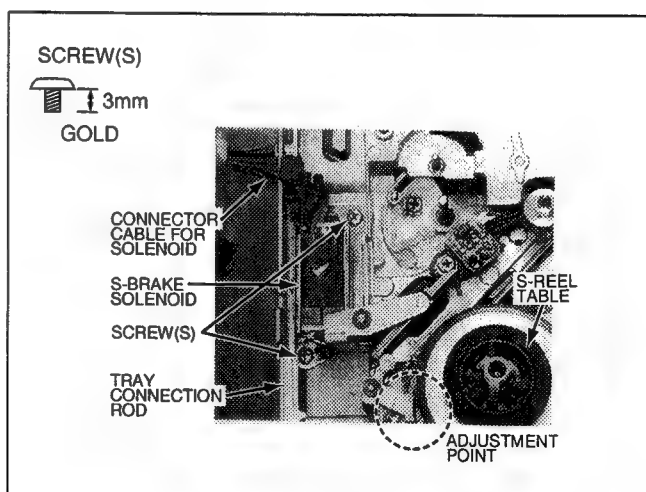

Fig. M-31
- Fig. M-31 Unscrew 2 screws (S).